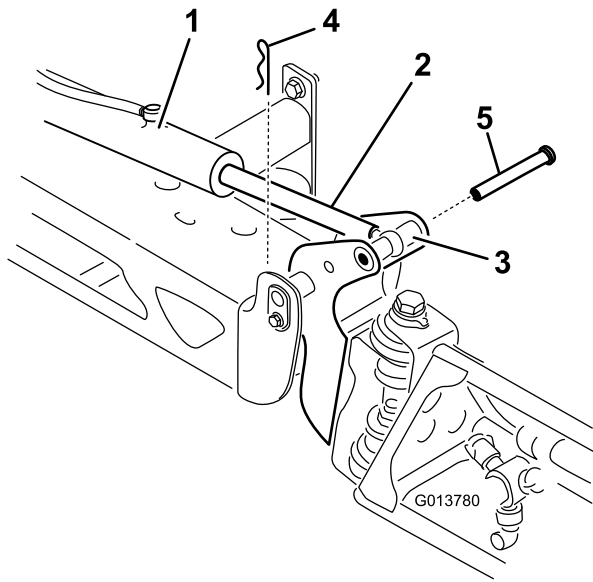

Figure 105
2. Remove the cotter pin from the pivot pin (Figure 105).
3. Lift up on the boom and remove the pin (Figure 105), and slowly lower the boom to the ground.
9. While holding the boom, insert the pin through both boom pivot and actuator rod (Figure 105).